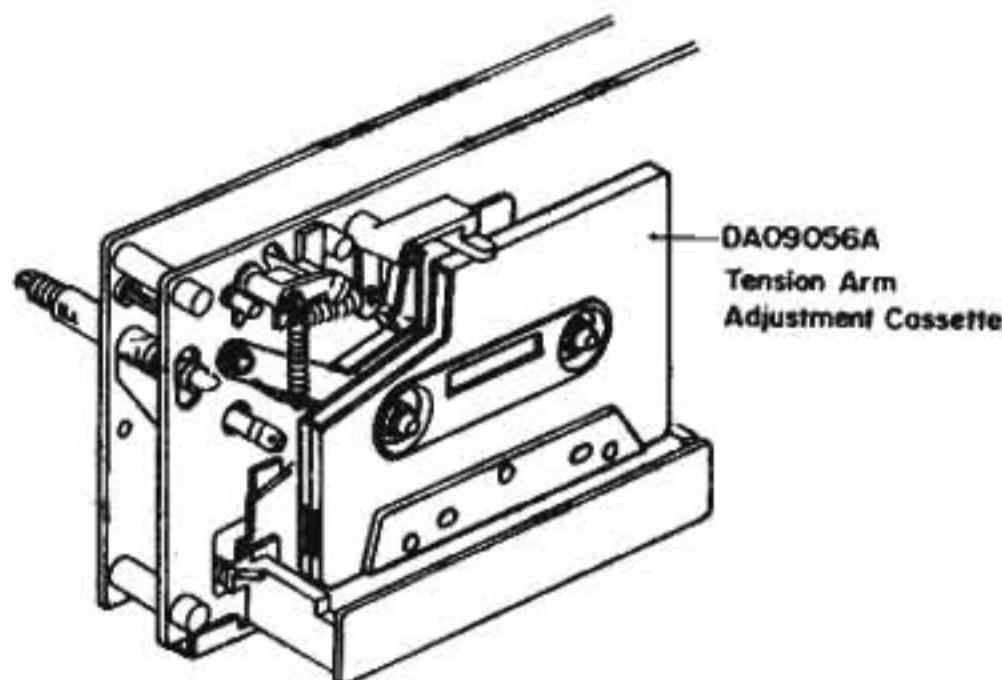
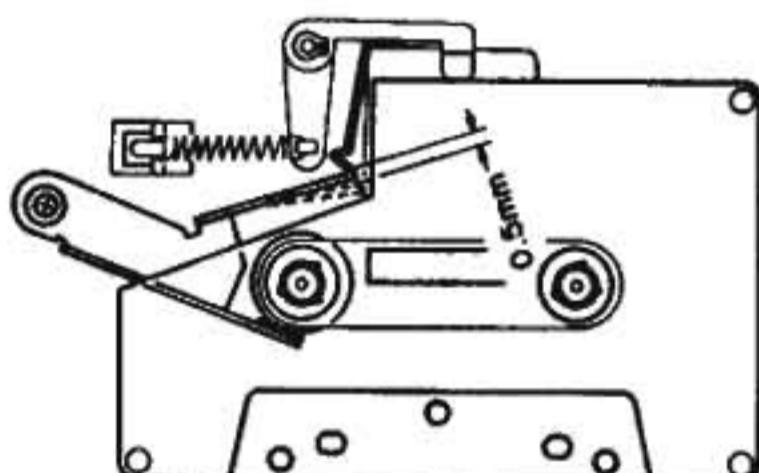

Fig. 2.10
Fig. 2.11
Refer to Figs. 2.10 – 2.13.
- (1) Load a Tension Arm Adjustment Cassette (DA09056A) in the cassette deck referring to Fig. 2.10.
- (2) Set the cassette deck in Play mode.
- (3) Bend the Back Tension Arm with pliers so that the gap between the Cassette Holding Spring assembled on the Head Base Ass'y and the Back Tension Arm becomes 0.5 mm as shown in Fig. 2.11. Do not bend the top of the Back Tension Arm.